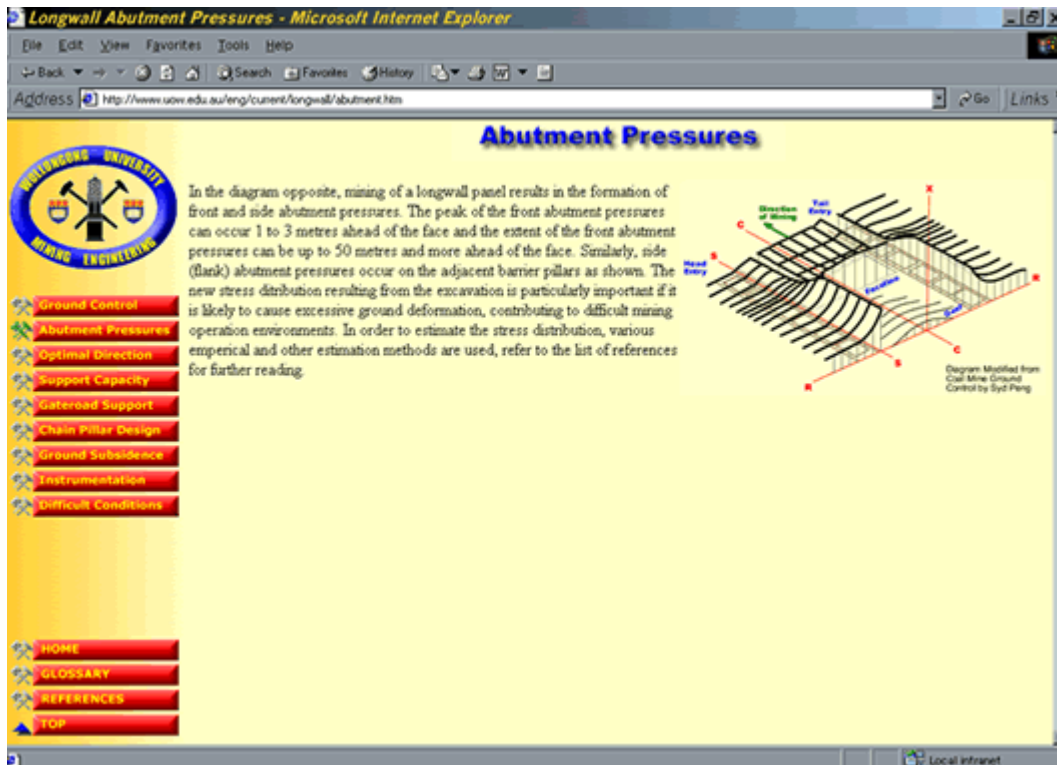

Fig. 2 Longwall Panel Abutment Stresses
- c) *Ground Control*: An important aspect of longwall mine design is to understand how the surrounding ground stratification reacts when a tunnel is driven in the strata. The general stress build up around a longwall panel is described and demonstrated graphically as shown in Fig. 2.